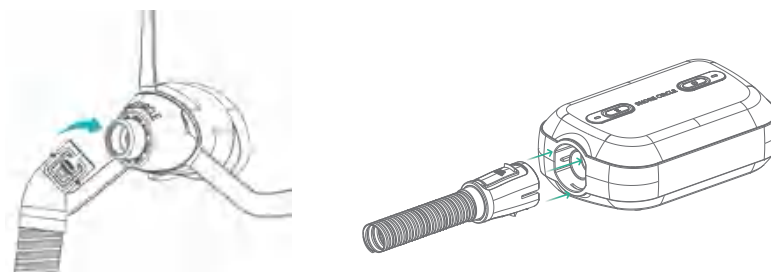

Figure 4-3 Connecting the tubing
- 1) As shown in Figure 4-3, connect the thicker end of the tubing to the air outlet, clipping it into the corresponding slots until secure.